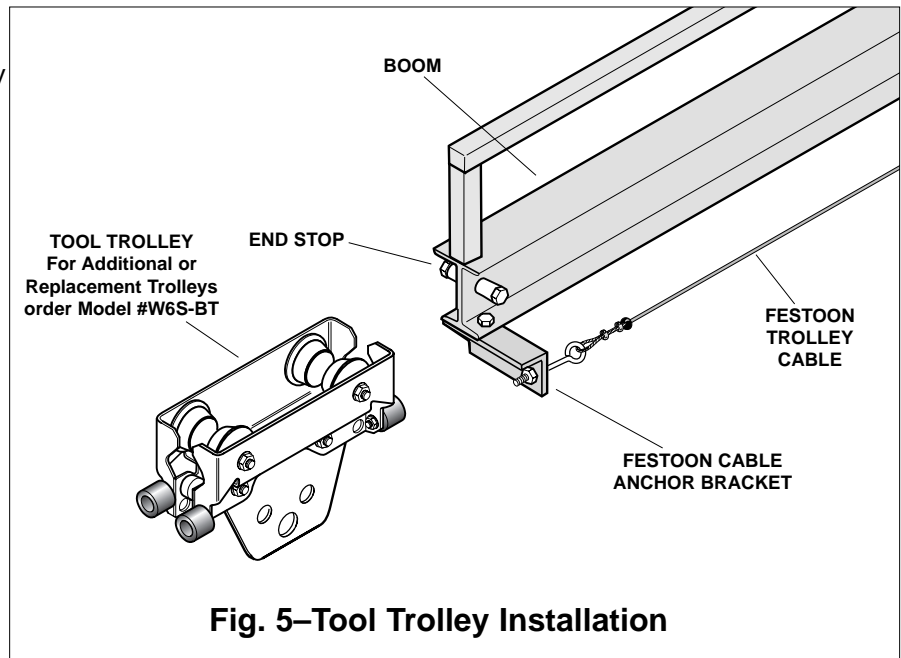

Fig. 5—Tool Trolley Installation
1. Remove end stop and festoon cable anchor bracket at end of boom (Fig. 5).